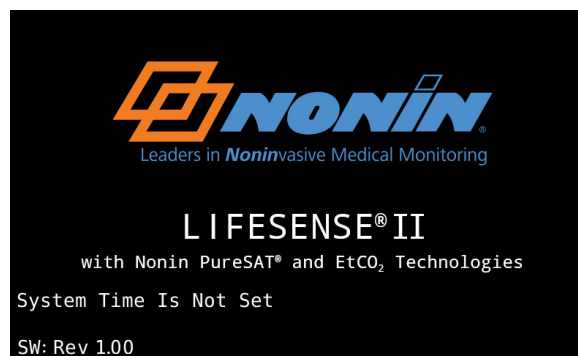

Figure 6. Start-up Screen
4. The Nonin logo start-up screen (figure 6) displays with the monitor name. The lower left corner of the screen shows the monitor’s software revision.